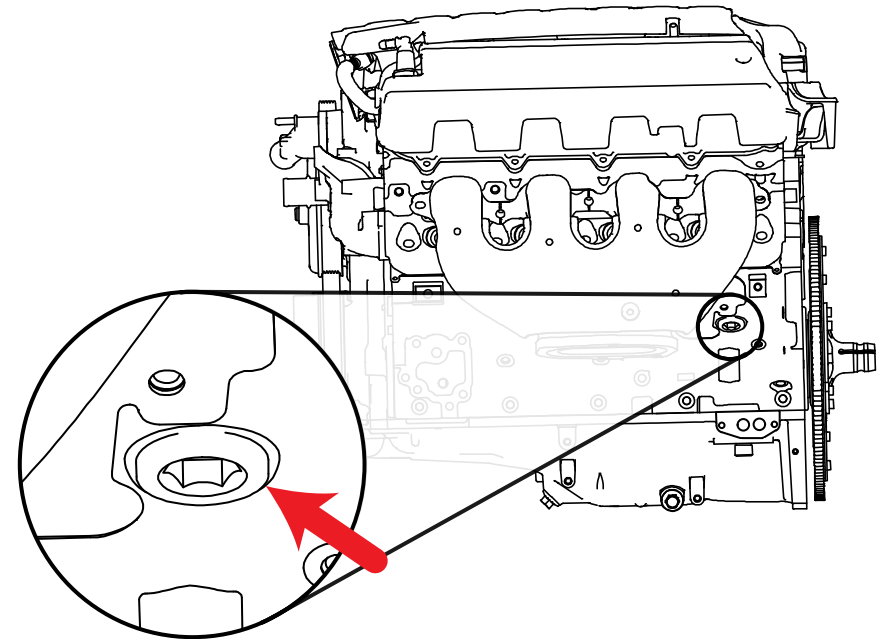

Figure 4 - Plug the coolant port on the engine block
7. Use a 17mm hex tool to plug the engine block coolant passage with the GM engine block coolant plug supplied with the EC7-681 Delete Kit, shown in Figure 4.